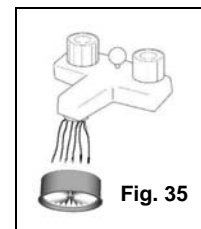

Fig. 35
6. You can wash the HEPA filter by holding it under the tap and allowing the water to run on the dirty side. (Fig. 35) **Always** allow 24 hours for the HEPA filter to **air dry** completely before replacing into the vacuum.